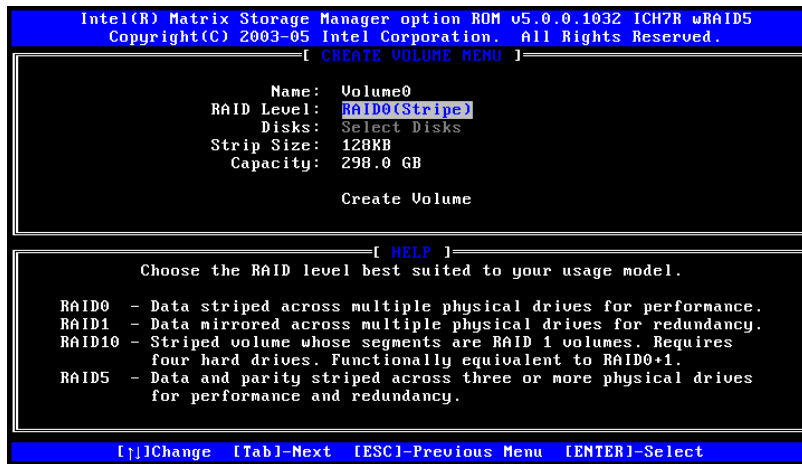

Figure G-3: Choose the Raid Level
Step 3: Choose the RAID level. Select a RAID level from the list. RAID levels include RAID 0, 1, 5 and 10. See Figure G-3.